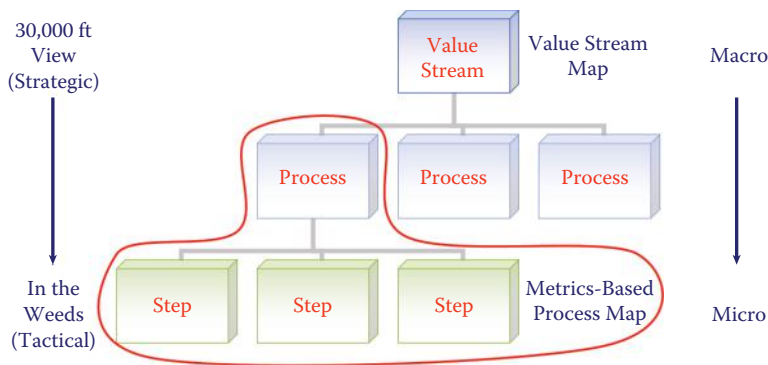

Figure 2.3 The difference between value stream and process maps.
The two biggest mapping problems we continue to see are: (1) people are still confusing value stream and process-level mapping, and (2) outside of manufacturing, both types of maps often lack metrics, one of the non-negotiable aspects of value stream and process level maps. Figure 2.3 depicts the difference between value stream and process-level maps.